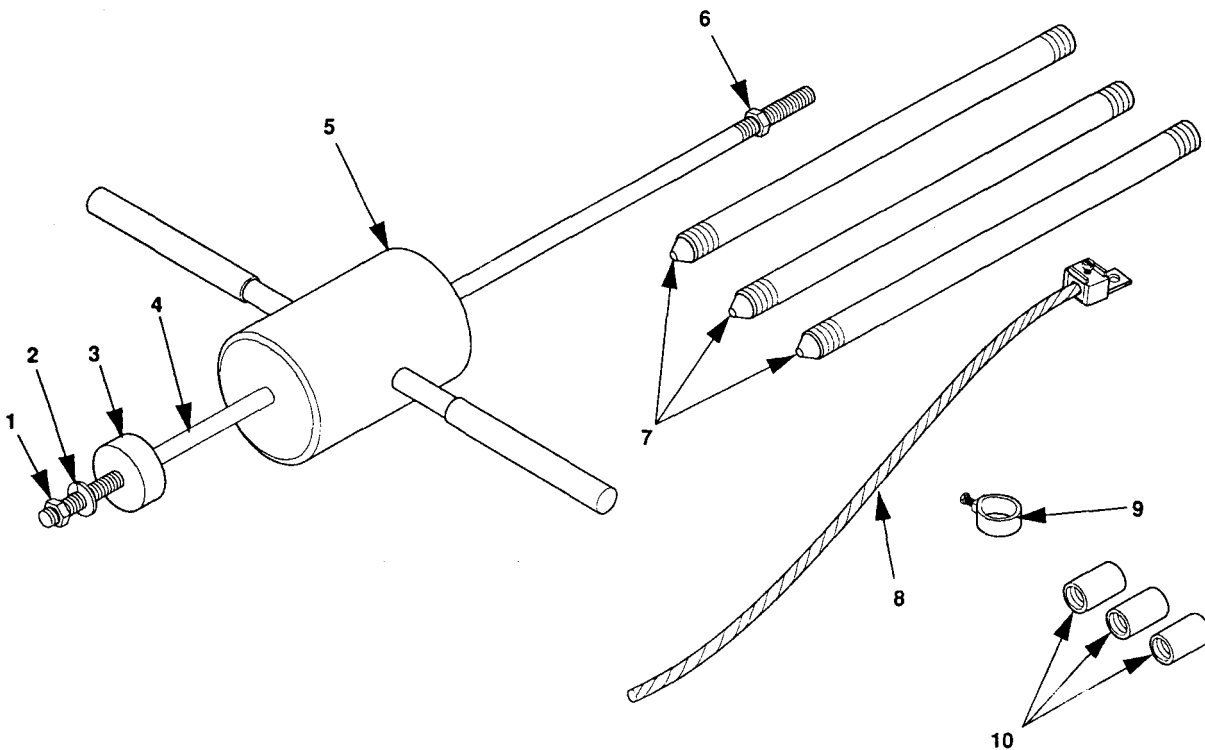

Figure 2-6. Ground Rod and Slide Hammer.
- a. Remove ground rod, grounding strap, and slide hammer (figure 2-6) from accessory storage box. Perform assembly steps (1) through (4).
- (1) Remove nut (6, figure 2-6) from end of rod (4) and retain.
- (2) Remove hammer (5) from rod (4) and thread nut (6) on end of rod to prevent loss.
- (3) Store hammer (5) and rod (4) with assembled parts in accessory box.